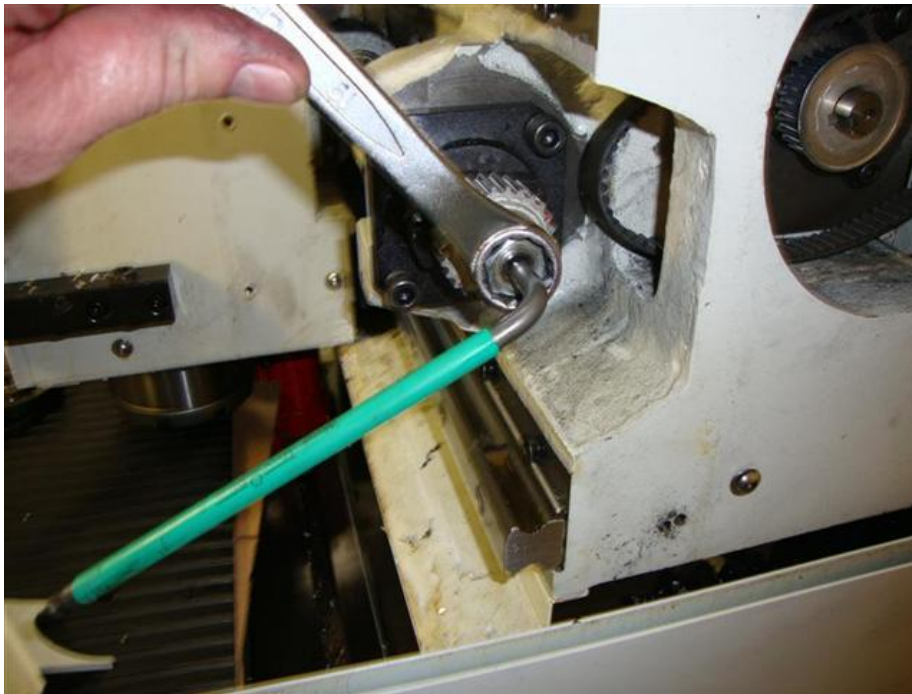

Figure 6.5b
3. While using a 6mm hex key to prevent the ballscrew from rotating, remove the hex nut, star washer, flat washer, pulley, ferrule and the clamp nut. See figures 6.5b and 6.5c.